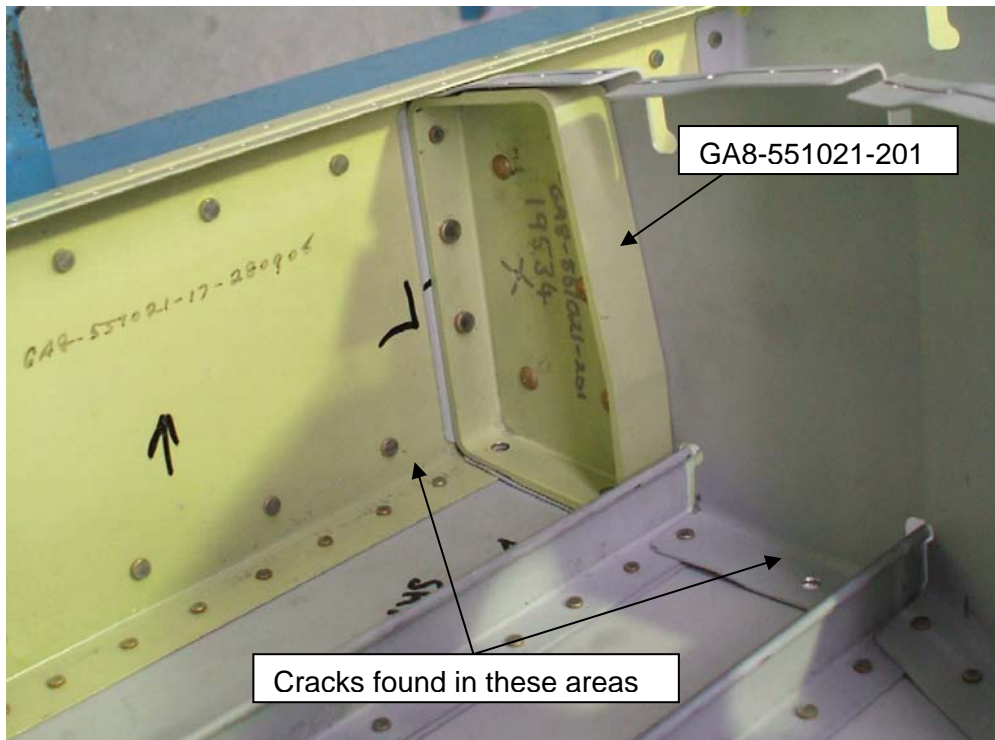

Figure 5
6. Horizontal stabilisers manufactured after 1 January 2007 have load transferring fittings Pno. GA8-551021-201/202 installed. Inspect the area around these parts, refer to Figure 5.